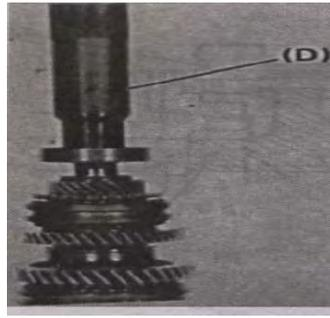
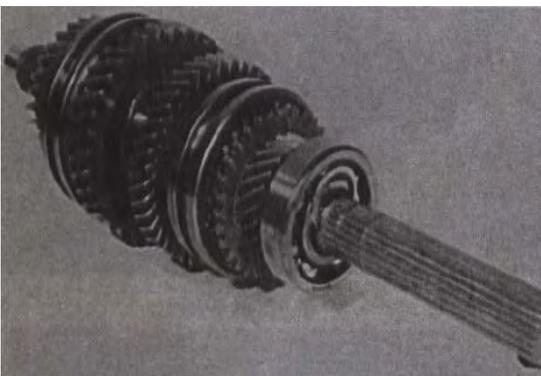

Fig 10-66
Fig 10-67
(9) Press-fit main shaft rear bearing using bearing installer (D) and fit circlip into groove in main shaft. (FIG.10-66, FIG.10-67)